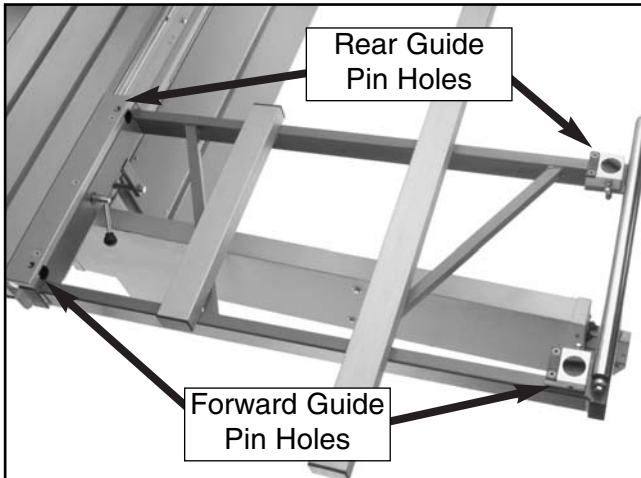

Figure 72. Guide pin holes used when mounting the crosscut fence for full size panel crosscutting.
2. Install the crosscut fence in the forward guide pin holes shown in **Figure 72** and lock it in place. Note—*First, drop the crosscut fence into the outside edge guide pin hole, then drop the other end of the crosscut fence into the guide pin hole closest to the sliding table.*
2. Install the crosscut fence in the rear guide pin holes shown in **Figure 72** and lock it in place. Note—*First, drop the crosscut fence into the outside edge guide pin hole, then drop the other end into the guide pin hole closest to the sliding table.*